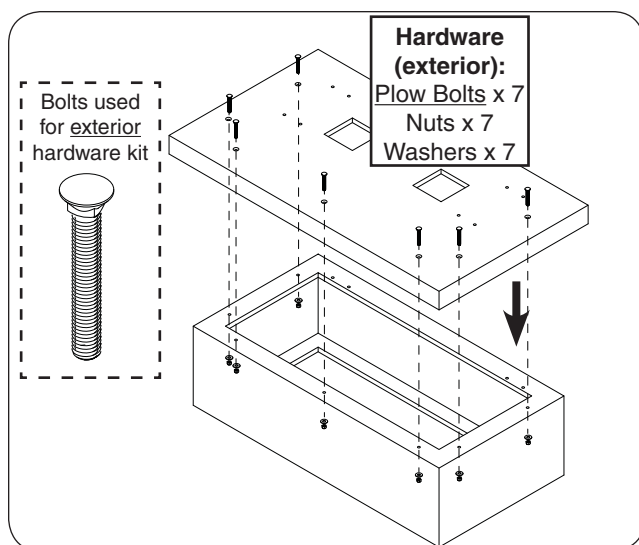

Fig. 15-2 Assemble shelf
2. Place the shelf piece on top of the hearth. Carefully align the pilot holes, and insert the hardware (exterior hardware kits) in the order shown in Fig. 15-2. Hand tighten, then use a  $\frac{3}{4}$ " open end wrench (or equivalent) to fasten.